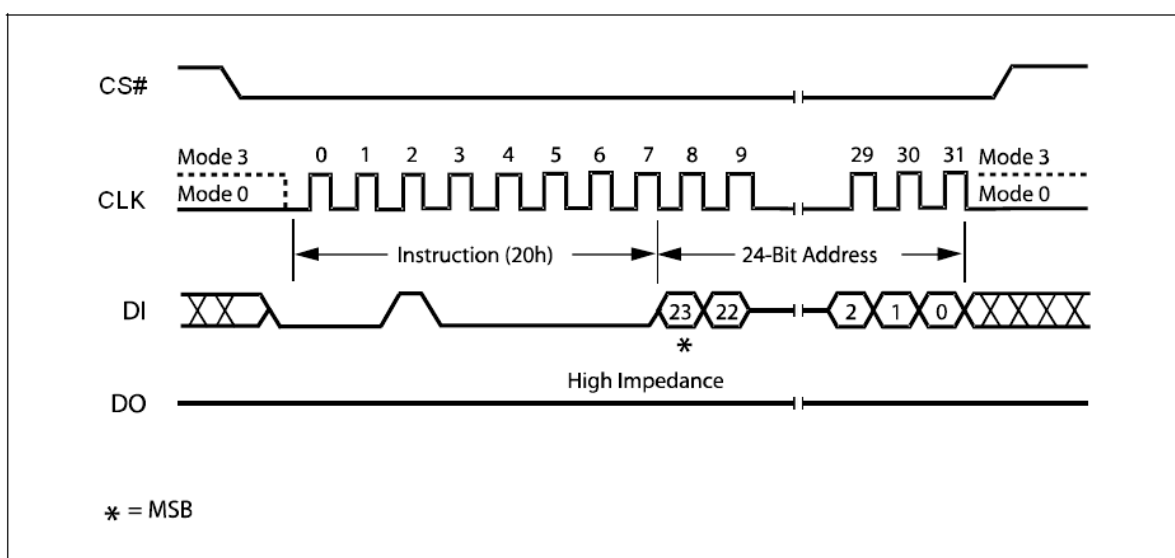

Figure 15. Sector Erase Instruction Sequence Diagram
The instruction sequence is shown in Figure 15. Chip Select (CS#) must be driven High after the eighth bit of the last address byte has been latched in, otherwise the Sector Erase (SE) instruction is not executed. As soon as Chip Select (CS#) is driven High, the self-timed Sector Erase cycle (whose duration is t_{SE}) is initiated. While the Sector Erase cycle is in progress, the Status Register may be read to check the value of the Write In Progress (WIP) bit. The Write In Progress (WIP) bit is 1 during the self-timed Sector Erase cycle, and is 0 when it is completed. At some unspecified time before the cycle is completed, the Write Enable Latch (WEL) bit is reset.